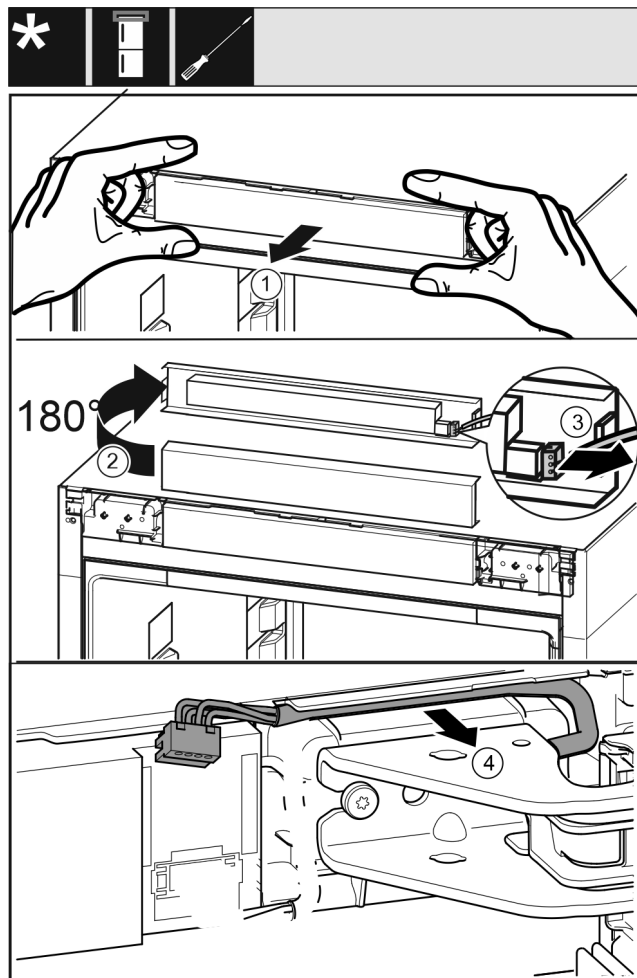

Fig. 6
- ▶ Pull out the control panel of the appliance to the front carefully. Fig. 6 (1)
- ▶ Turn the control panel upwards by 180°. Fig. 6 (2)
- ▶ Push the latching lug back and pull out the plug carefully. Fig. 6 (3)
- ▶ Carefully pull out the cable over the bearing bracket out of the guide. Fig. 6 (4)